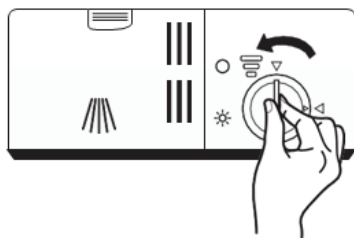

Figure 9- Removing the Rinse-aid dispenser cap.
**Step 1** Remove the Rinse-aid dispenser cap by screwing it in an anti-clockwise direction. Refer to Figure 9.